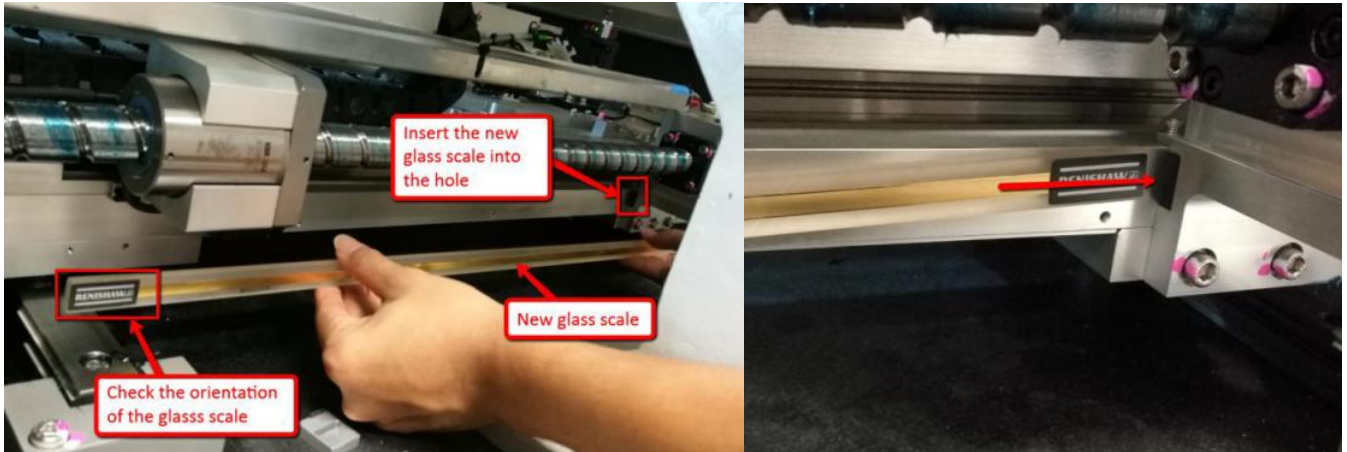

Figure 5 Glass scale assembly
1. Insert X-Axis glass scale into the slot as shown in Figure 5.